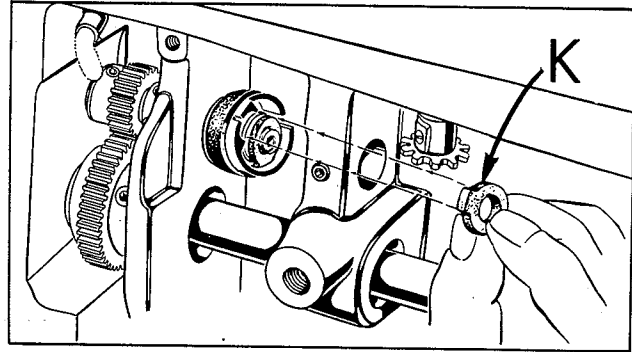
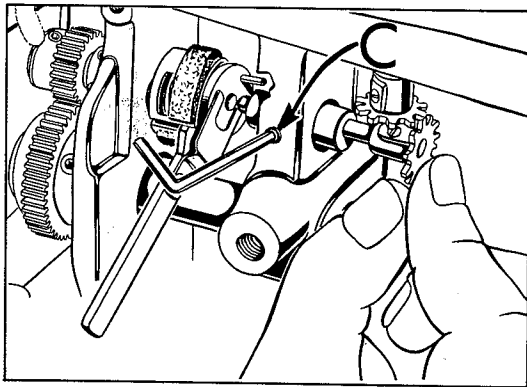

Fig. 21
Fig. 22
3. Position oil supply felt (K, Fig. 21) on hook shaft making certain the felt's projection extends into dovetail of metering cup.
4. Position air seal felt (J) on hook shaft.
5. Insert pump disc (F) into assembly tool No. 21227 BY, with stop pin on the spring side of tool, 180° from handle. Insert disc approximately half way into spring and center in tool (Fig. 22).
6. Insert hook oil control shaft (D) and its bushing (L) part way into its boss which is located directly behind the hook shaft, being careful NOT TO DROP the pump disc pivot pin (E).
7. A clearance cut on the edge of the metering cup, located between the dovetail and the long horizontal slot, has been provided for the pump disc tool and should be facing you (Fig. 22).
9. Press hook oil control shaft bushing (L) to left until control shaft (D) is approximately 1/16 inch away from pump disc (F). Make sure the control shaft pivot pin (E) seats in the depression at the center of the pump disc. Tighten set screw (C, Fig. 22) and withdraw assembly tool. Be sure air seal felt (J) has seated against the pump disc.